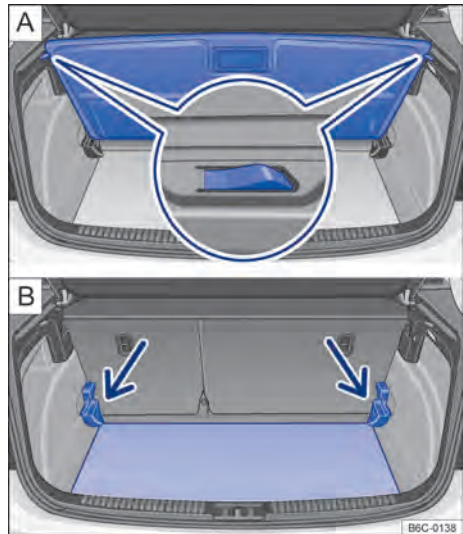

Fig. 153 In the luggage compartment: adjust the luggage compartment floor height.
- Lift the luggage compartment floor cover and pull it back removing it from the luggage compartment side guides → Fig. 153 [A].
- Lift the luggage compartment floor and push down underneath the guide → Fig. 153 [B] (arrows).